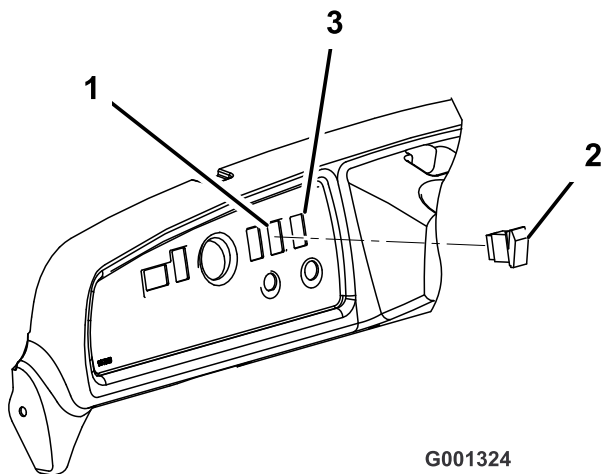

Figure 9
8. Remove the plug from the hole in the right side of the dash (Figure 9).
9. Plug the switch into the accessory connector in the dash. Insert the switch into the hole in the dash (Figure 9).
10. Plug the switch into the harness connector in the dash. Insert the switch into the hole in the dash (Figure 9).